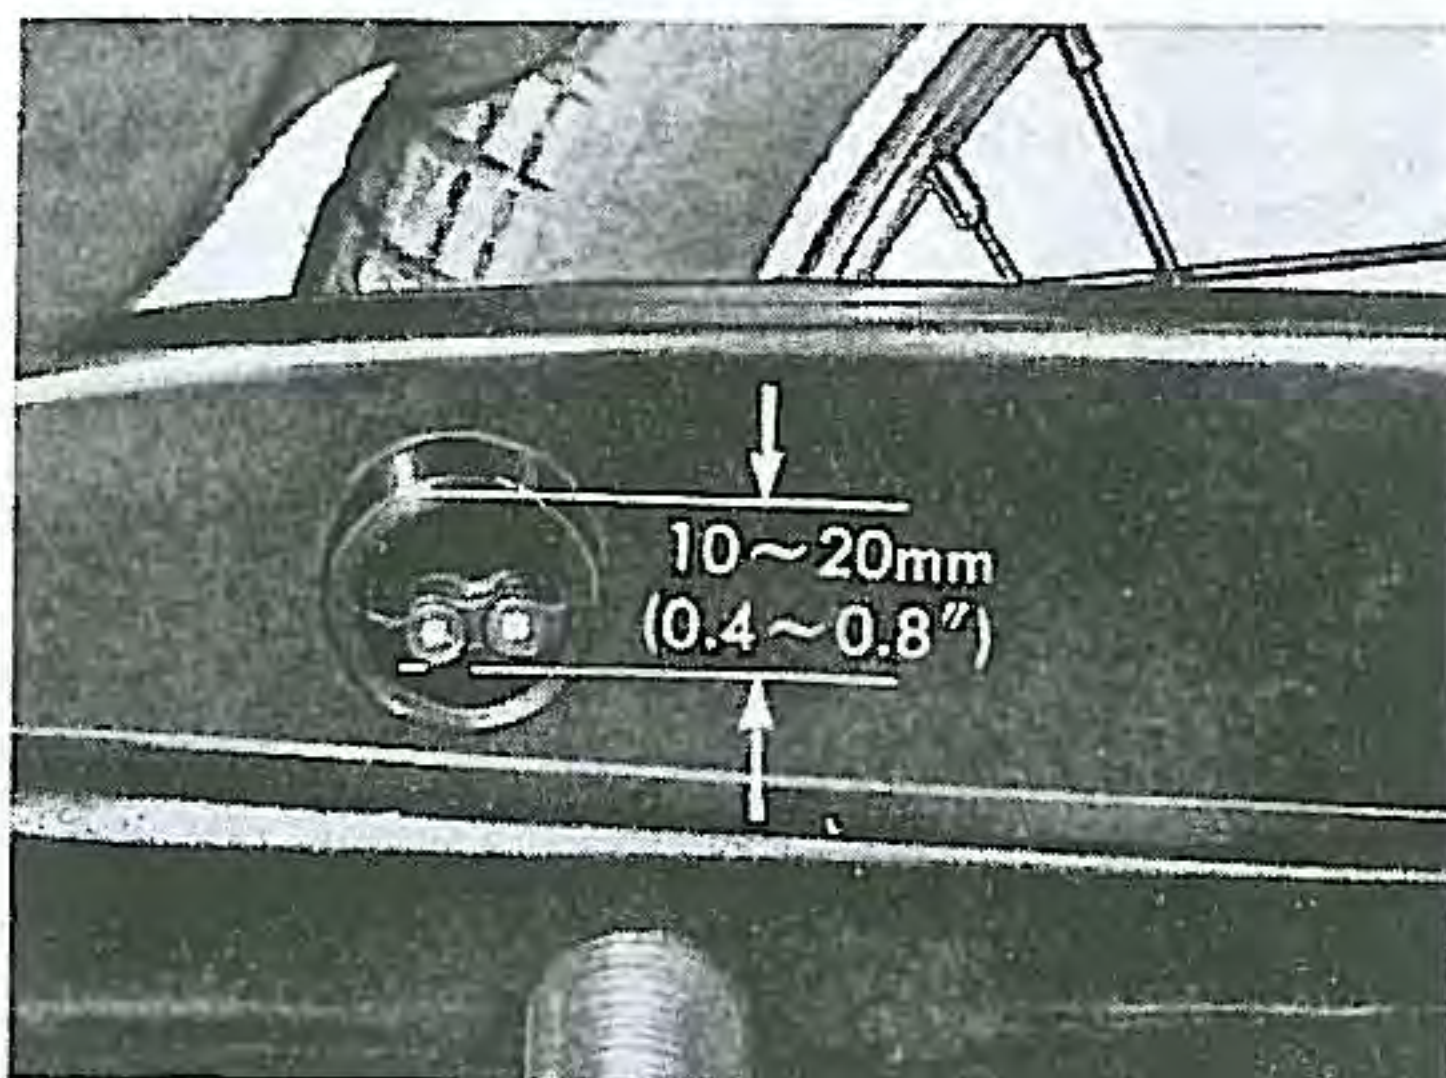

Fig. IV-7. Max. deflection of drive chain
- (1) Remove the rubber cap on the chain case and adjust the drive chain so there is 10-20 mm (0.4-0.8") of play. (Fig. IV-7)